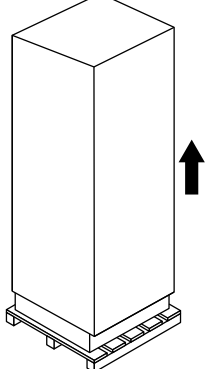

Fig. 4.2
- Remove the "hat" container, extracting it from the top (Fig. 4.2).